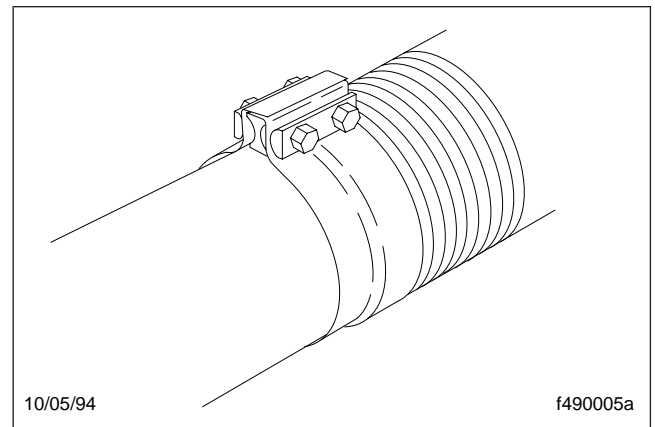

Fig. 2, Wide-Band Exhaust Clamp
3. Check for leakage at each wide-band exhaust clamp (see Fig. 2). If leakage exists, tighten the nuts 40 to 60 lbf-ft (54 to 81 N-m). If leakage persists, install a new wide-band exhaust clamp. See **Group 49** of the *Acterra® Workshop Manual* for instructions.